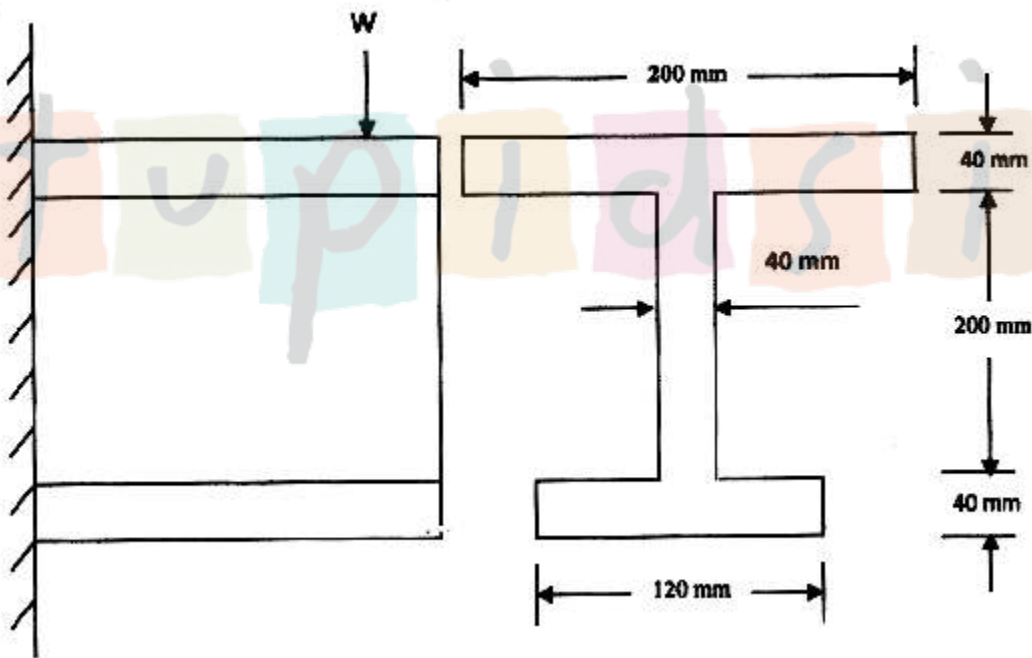

Fig. 5
- (b) A cast iron bracket as shown in Fig. 5 is subjected to bending and has cross-section of I-form with unequal flanges. The total depth of the section is 280 mm and the metal is 40 mm thick throughout. The top flange is 200 mm wide. Find the position of neutral axis and the moment of inertia of the section about the neutral axis and determine the maximum bending moment that should be imposed on this section if the tensile stress in the top flange is not to exceed 20 N/mm^2 . What is the value of the compressive stress in the bottom flange ? [10]